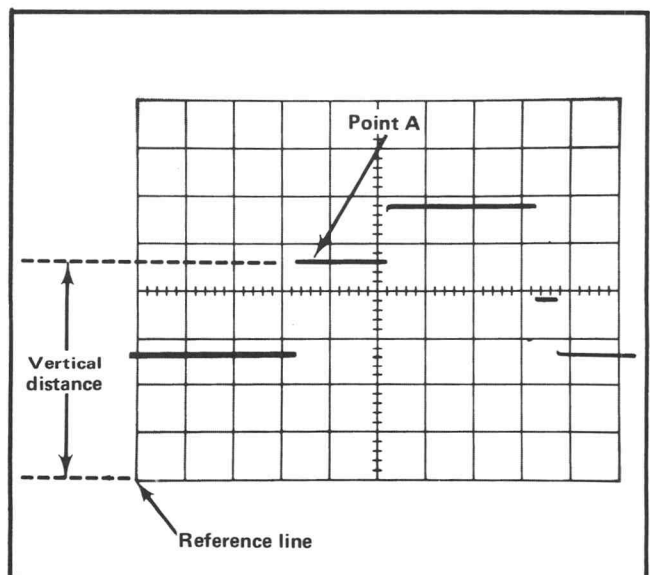

Fig. 2-12. Measuring instantaneous DC voltage with respect to a reference.
9. Measure the distance in divisions between the reference line and the point on the waveform at which the DC level is to be measured. For example, in Fig. 2-12 the measurement is made between the reference line and point A.
Example. Assume that the vertical distance measured is 4.6 divisions (see Fig. 2-12), the waveform is above the reference line, using a 10X attenuator probe and a VOLTS/DIV setting of 2.